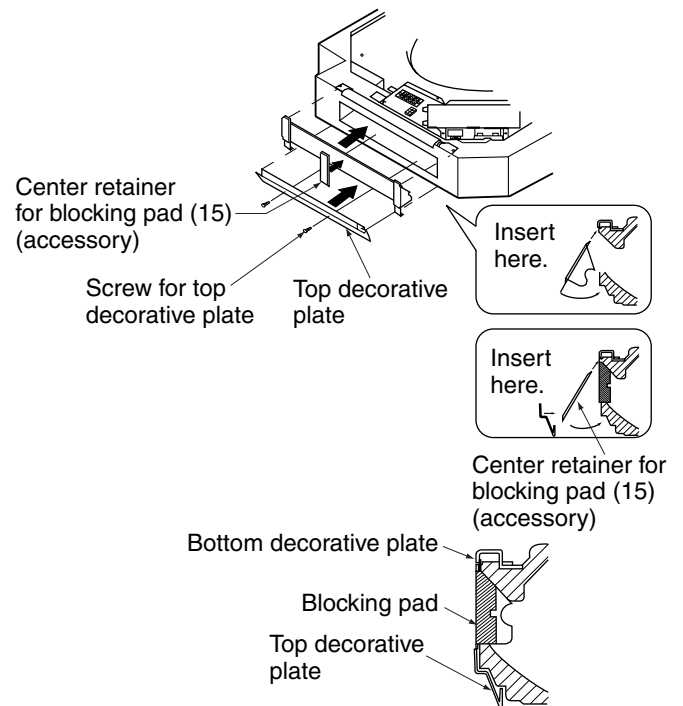

Fig. 13
4. After installing the blocking pads, attach the center retainer for blocking pad and the top decorative plate. (Refer to Fig. 13)